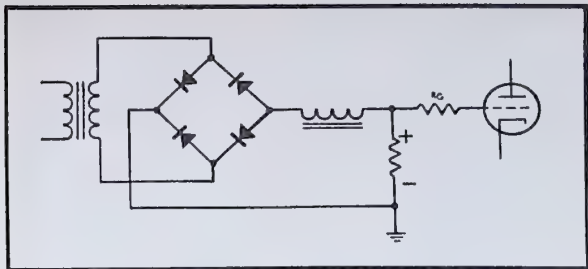

Fig. 10-17. Biasing system, power supply.
**Power Supply.** The principle of operation of a fixed-bias arrangement using a separate power is shown in Fig. 10-17. A filtered negative voltage is applied to the grid through a series grid resistor ( $R_g$ ). Note that the cathodes of the two joining diodes in the bridge circuit are connected to ground, and the negative voltage is taken from the anode junction.